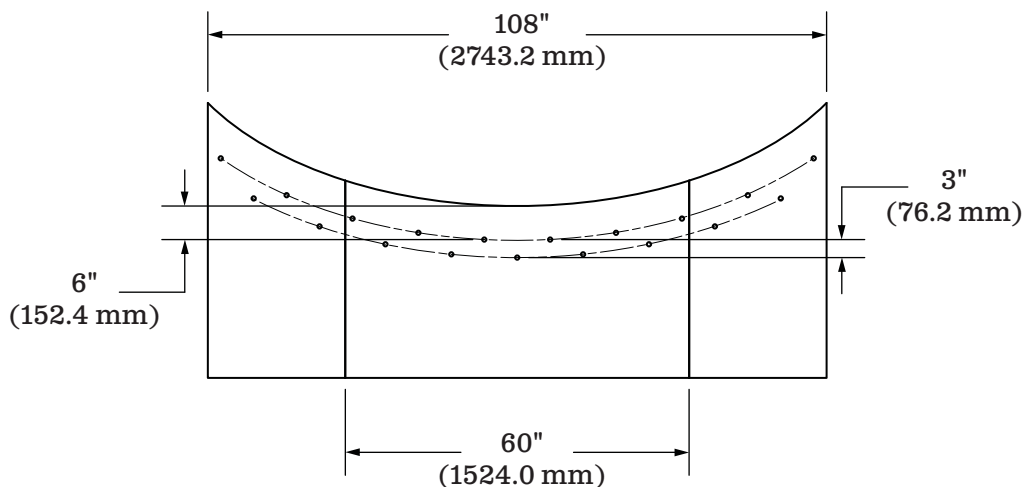

Figure 21
- 1) **Figure 21.** Two rows of screws or bolts, the first is a minimum of 6" from the edge of the liner part and the second is 3" from the first row. 3" from the out side edge of the liner stagger the screws every 6" across the trailer. Patterns for 5' and 9' are shown.